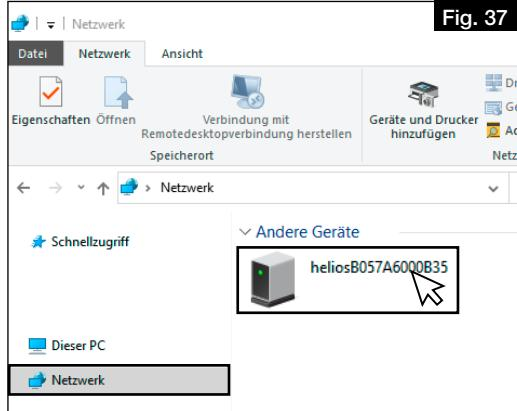

Fig. 37
2. Open desktop and click on Network, cf. Fig. 37.
3. Double-click on the corresponding unit, cf. Fig. 37.